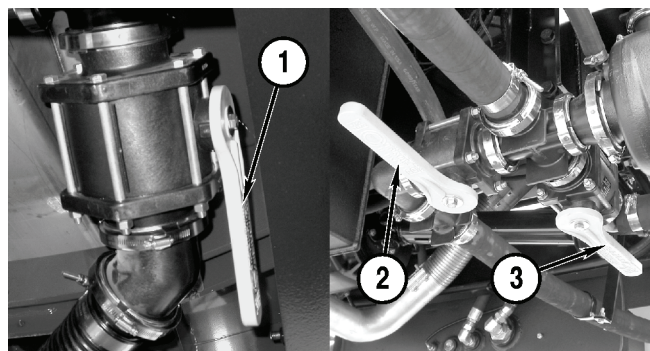

Figure 5-69
12. Repeatedly open and close the sump valve (**Figure 5-69, 1**), rinse tank valve (**Figure 5-69, 2**) and product valve (**Figure 5-69, 3**) to allow the antifreeze to surround the ball valves.
13. Close the rinse tank valve (**Figure 5-69, 2**) and open the sump valve (**Figure 5-69, 1**).